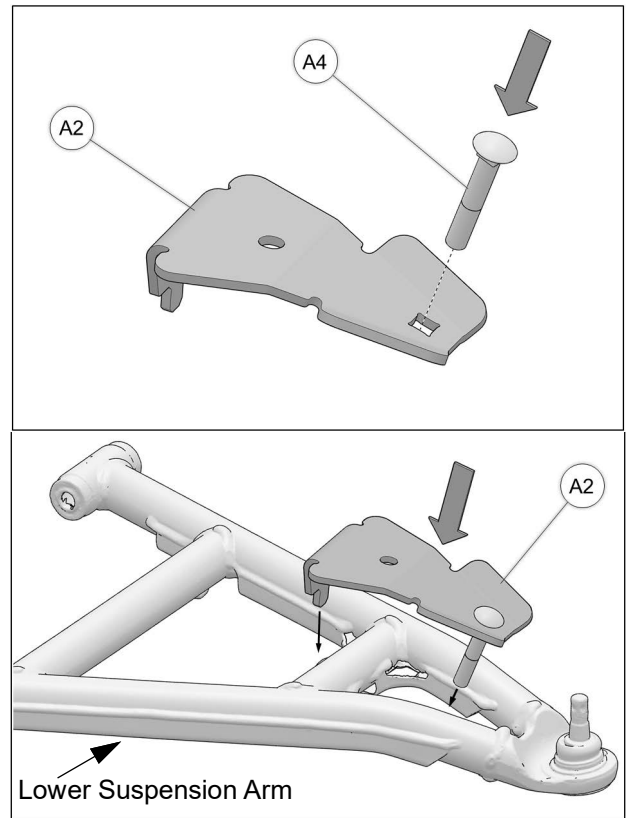

Fig. 13
5. Insert M10x60mm carriage bolt (A4) in square hole of bracket cover (A2) and set the parts over lower front suspension arm as shown in Fig. 13